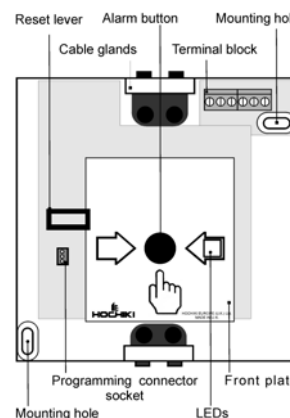

Fig 3 - door open
- The front plate can be removed by pressing the two releasing clips on the left-hand side (see fig 3) and lifting off.
- ❑ Locate the terminal block within the unit, which is in the top right-hand corner of the casing (see fig 3).
- ❑ Make a hole through the cable glands either at the top or at the bottom of the unit (see fig 3) and pass the loop cabling through.
- ❑ Ensure alarm button has NOT been depressed during wiring. Use the reset lever (see fig 3) by pulling to the left to correct this if needed.
- ❑ Locate the Programming Connector Socket within the unit, which is on the left-hand side of the main PCB (see fig 3). Insert the rectangular connector plug of the programming lead into this socket (which is polarised) and the jack plug into the jack socket on the TCH-B100.
- ❑ Programming of the unit cannot be carried out if the alarm button is depressed. This can be reset by pulling the reset lever (see fig 3 above) to the left until the alarm button pops up.
- ❑ The alarm button will be depressed. This can be reset by pulling the reset lever (see fig 3 above) to the left until the alarm button pops up. (Note - closing the door automatically resets the unit).